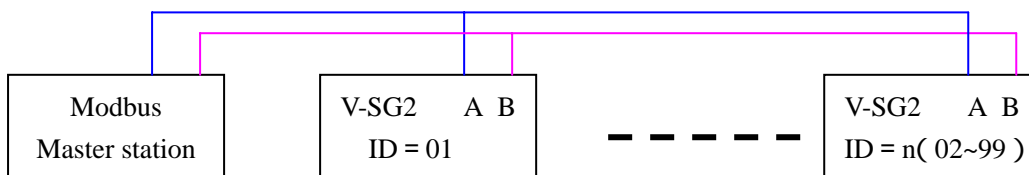

Figure3 : Modbus communication connection
2.3.2.1 Connected A and B lines of some V-type SG2 with a Modbus master station , as Figure3 ;